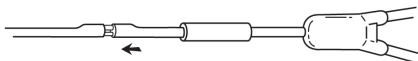

Fig. 5
5. Slide the small and large metal cannulae into the catheter lumens until the replacement catheter end is about 3 mm from the catheter end. (Fig. 5)